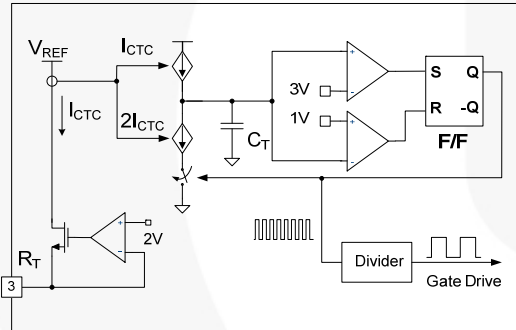

Figure 16. Current-Controlled Oscillator
**2. Internal Oscillator:** FSFR-XS series employs a current-controlled oscillator, as shown in Figure 16. Internally, the voltage of  $R_T$  pin is regulated at 2 V and the charging / discharging current for the oscillator capacitor,  $C_T$ , is obtained by copying the current flowing out of the  $R_T$  pin ( $I_{CTC}$ ) using a current mirror. Therefore, the switching frequency increases as  $I_{CTC}$  increases.